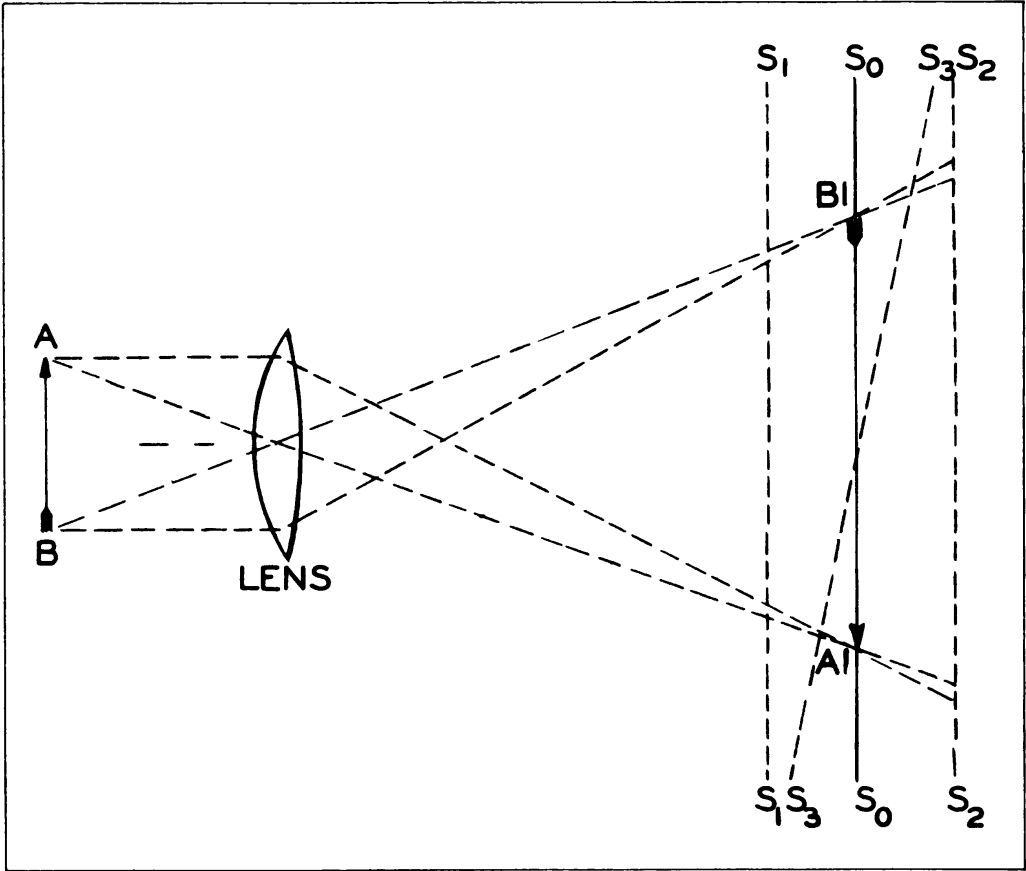
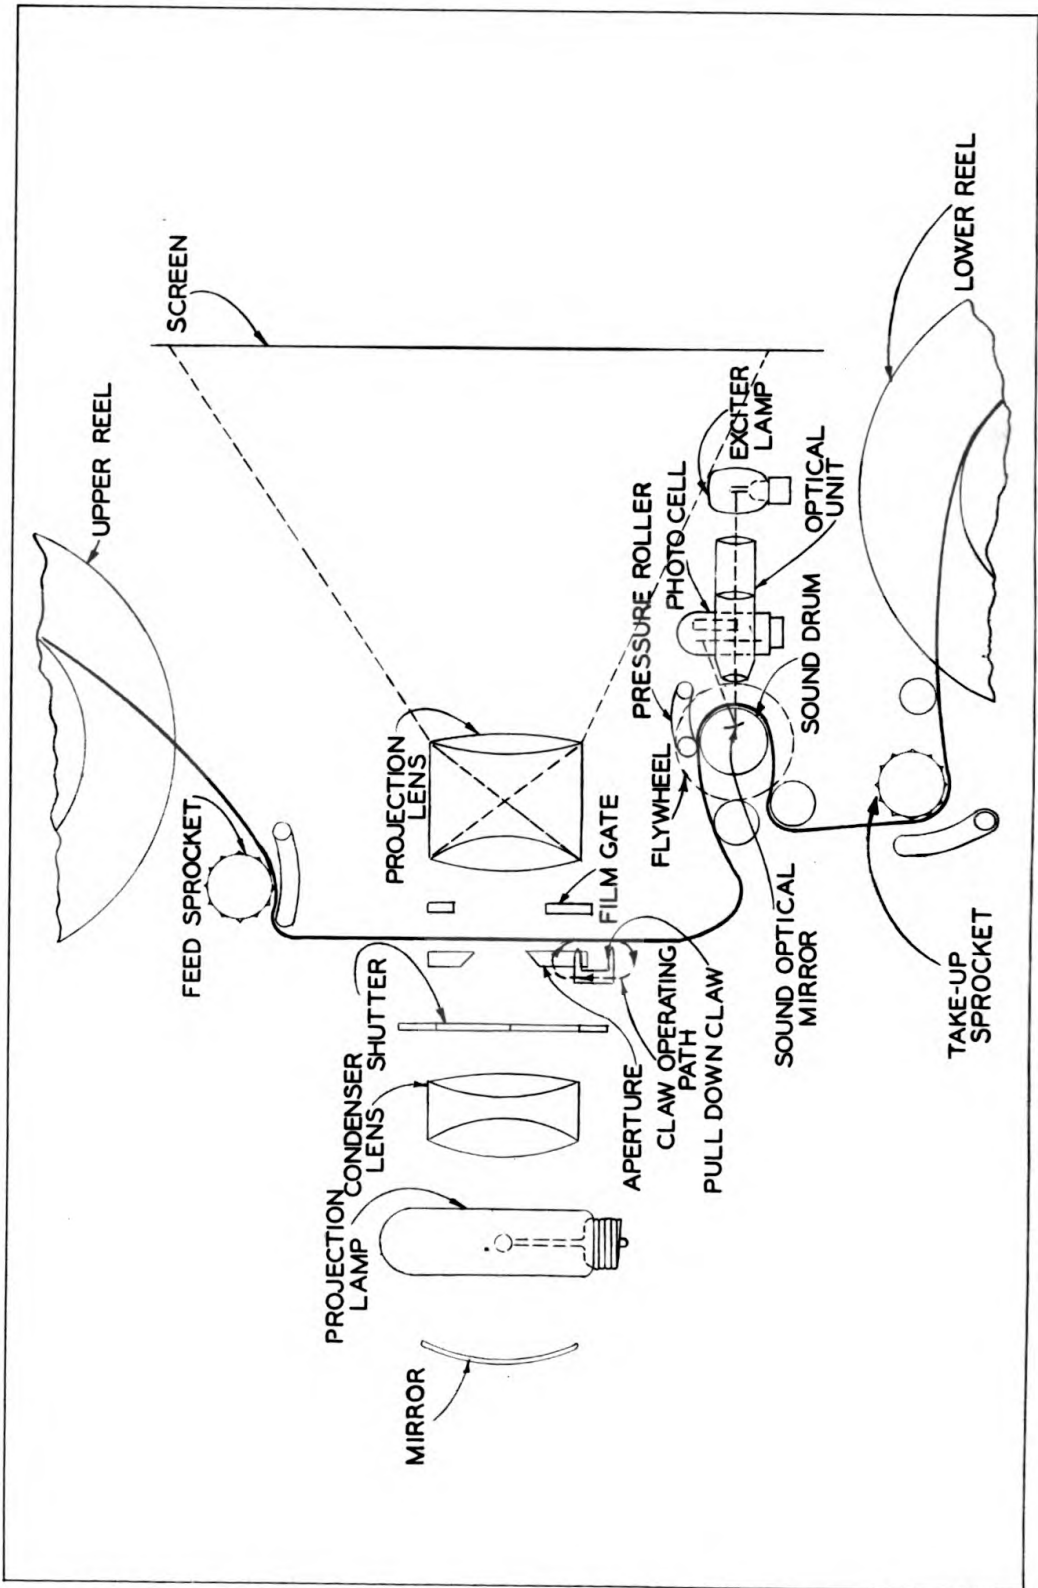

Figure 11—Image Projection
Figure 12—Schematic Diagram of Sound Motion Picture Projector
a. Images of an object may be projected upon a screen by means of a lens if the distances can be adjusted so that all of the light radiated from each point on the object is brought to a focus at corresponding points on the screen. Figure 11 illustrates the formation of an image $A_1 B_1$ of an object AB , on the screen $S_0 S_0$ by a converging lens.
c. The process of adjusting the distance between the object and the lens to form an image upon the screen is called focusing. By referring to Figure 11 again it may be seen that, if the screen was located at $S_1 S_1$ instead of at $S_0 S_0$, the light from point A would not be brought to a point on the screen but would cover a small area causing the image to be blurred, etc. Likewise, if the screen was at $S_2 S_2$ the image would be blurred because the rays would have diverged before striking the screen.
a. Motion pictures are projected in much the same manner as the simple object illustrated in Figure 11, with the exception that the motion picture film is the "object" and light rays pass to the lens through the film (object) instead of being reflected from it. Figure 12 illustrates schematically the theory of operation of a motion picture projector.
14. The Motion Picture Projector.—Figure 12 shows a schematic diagram of the projector mechanism.
15. Sound Reproduction.—Refer again to Figure 12 which shows the equipment necessary for the translation of the sound track on the film into electrical impulses.